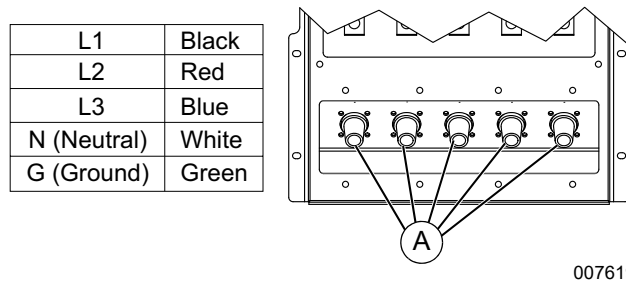

Figure 3-5. Cam Lock Connections
See **Figure 3-5**. The unit may be equipped with cam lock connections (A) located below the receptacles. These receptacles provide connection points to attach external loads to the generator. A decal below the cam lock connections details the proper connections for selected voltages.